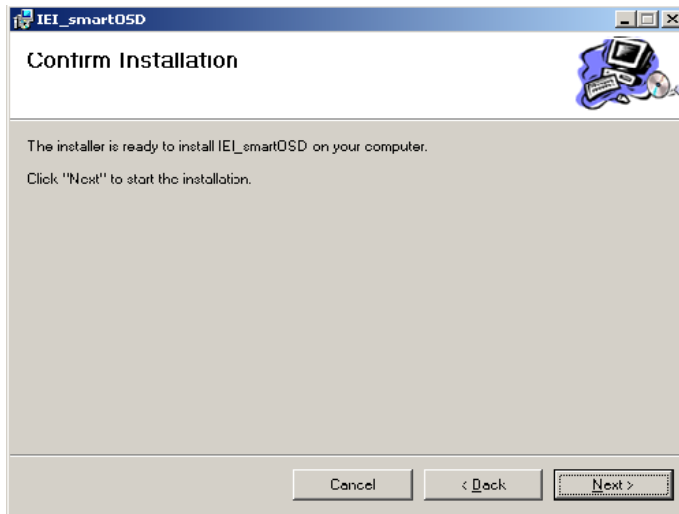

Figure C-4: smartOSD Confirm Installation
Step 8: The screen in Figure C-4 appears.